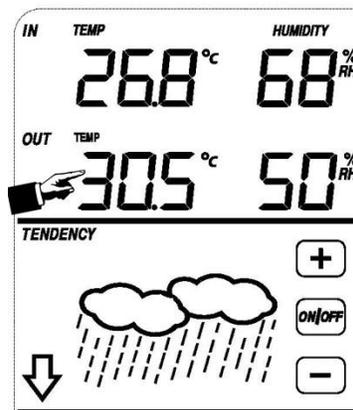

Figure 11
1. Touch the outdoor temperature once, as shown in Figure 11. The outdoor temperature will begin flashing and the  button and  button will be flashing (in the tendency section of the display).
1. Touch the wind speed once, as shown in Figure 11. The wind speed will begin flashing and the button and button will be flashing (in the tendency section of the display).